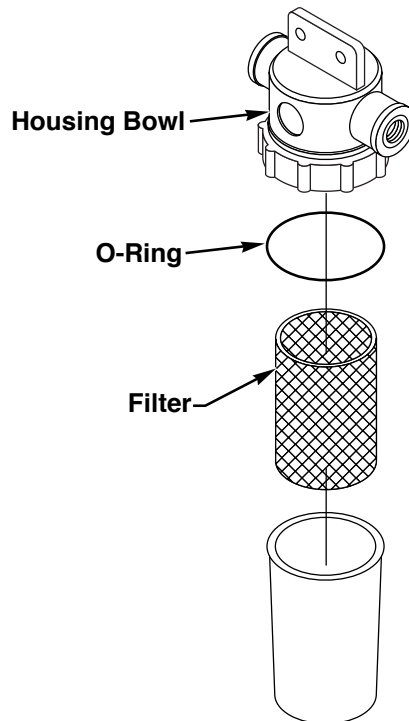

Figure 11- Insecticide Filter
- Clean the insecticide filter. If this filter becomes stopped up, the insecticide flow will be restricted or stopped. There is a fine mesh screen located in the cylindrical housing. This screen can be removed for inspection and/or cleaned by manually unscrewing the housing bowl. Reference Figure 11.